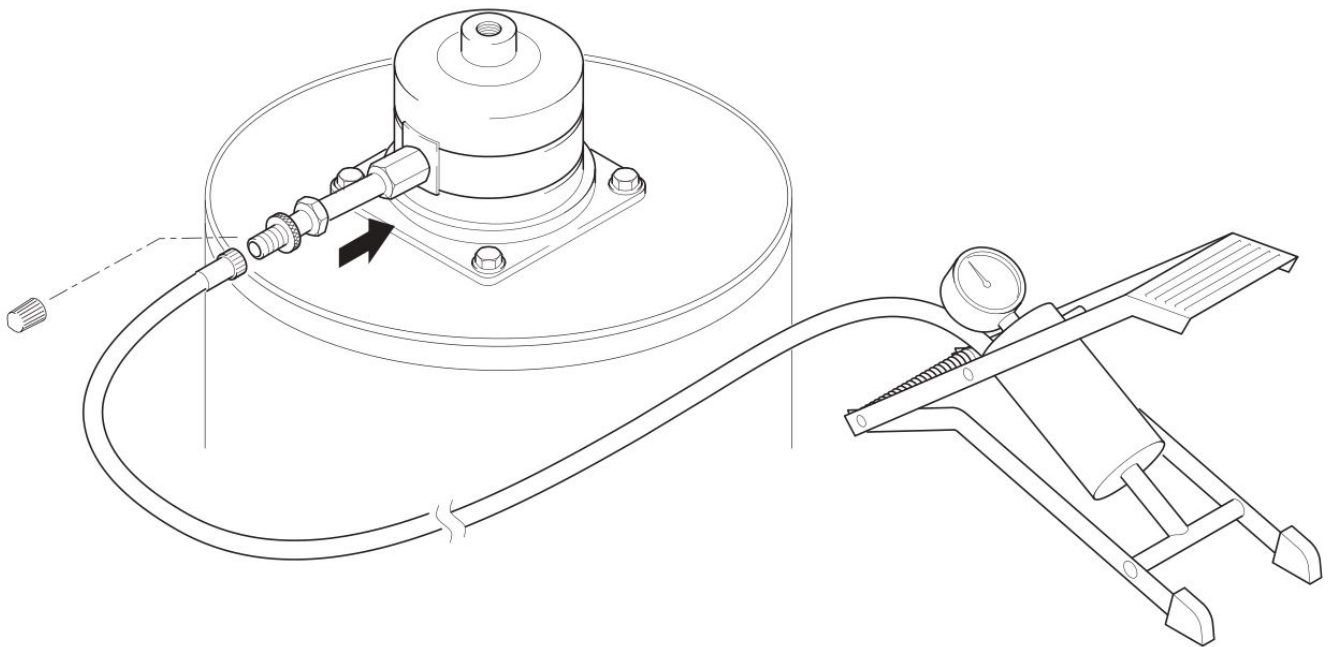

Fig. 3.3 Inflating passive isolator
2. Connect a footpump to the Schraeder valve of one of the isolators and inflate to about 40 p.s.i. – see Fig. 3.3
3. Repeat item 2) for the isolator diagonally opposite.
4. Repeat items (2) and (3) for the remaining two isolators.